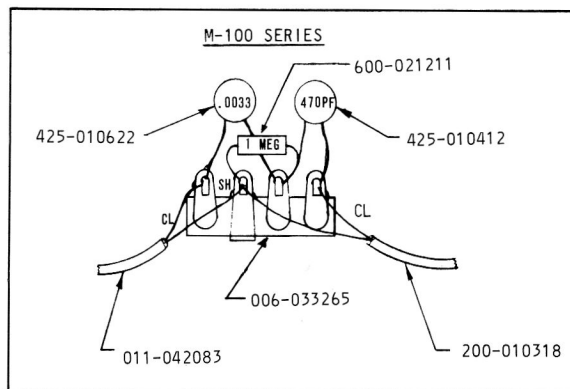

FIGURE 3-2.
Assemble terminal strip as shown in Figure 3-2, using .0033 uf capacitor, 425-010622, 470 pf capacitor, 425-010412, and 1 meg resistor, 600-021211.
- b. Solder free ends of wire and plug assembly to terminal strip assembly as shown in Figure 3-2.
- c. Solder shield and conductor of shielded lead, 200-010318 to terminal strip assembly as shown in Figure 3-2.